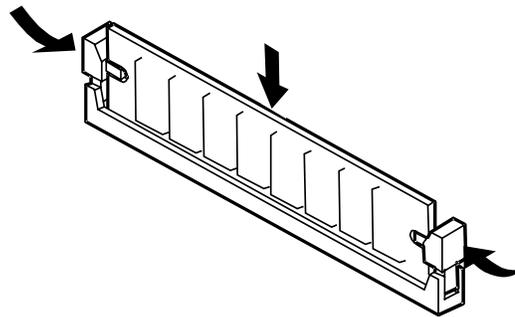

Figure 4-17. Inserting Memory DIMMs
12. Position the DIMM so that the two notches in the bottom edge of the DIMM align with the keyed socket. See Figure 4-17.